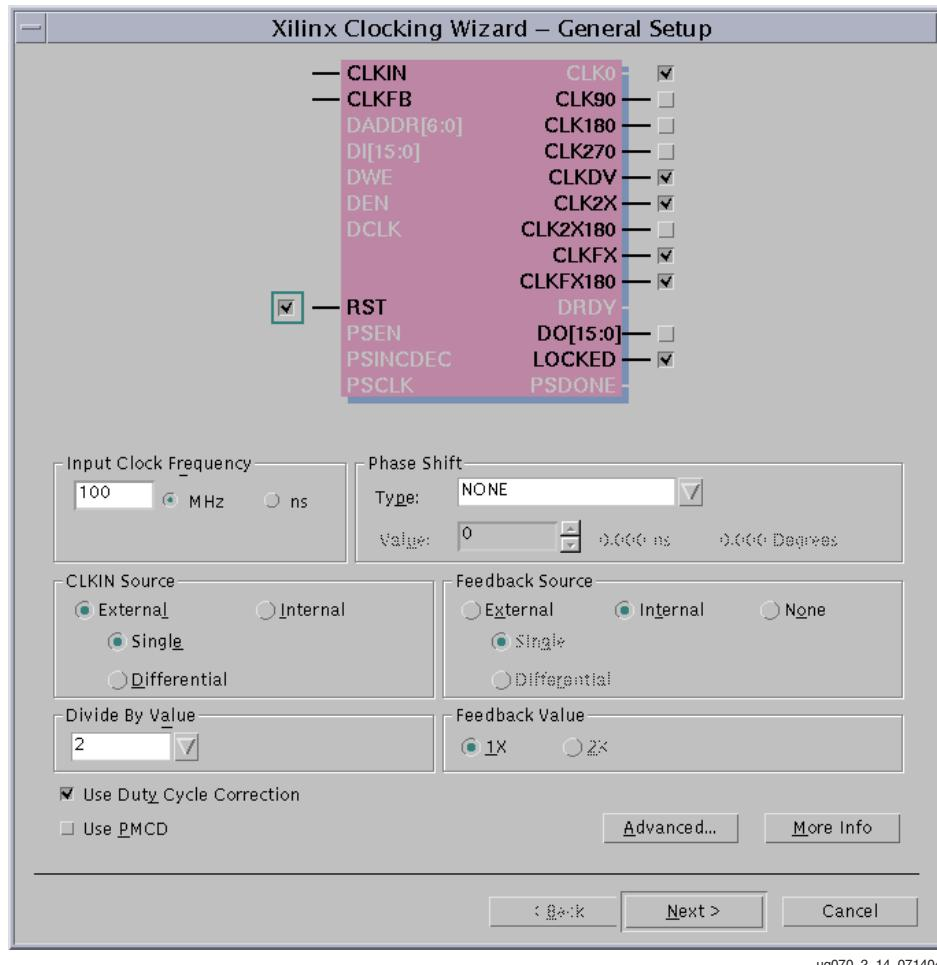
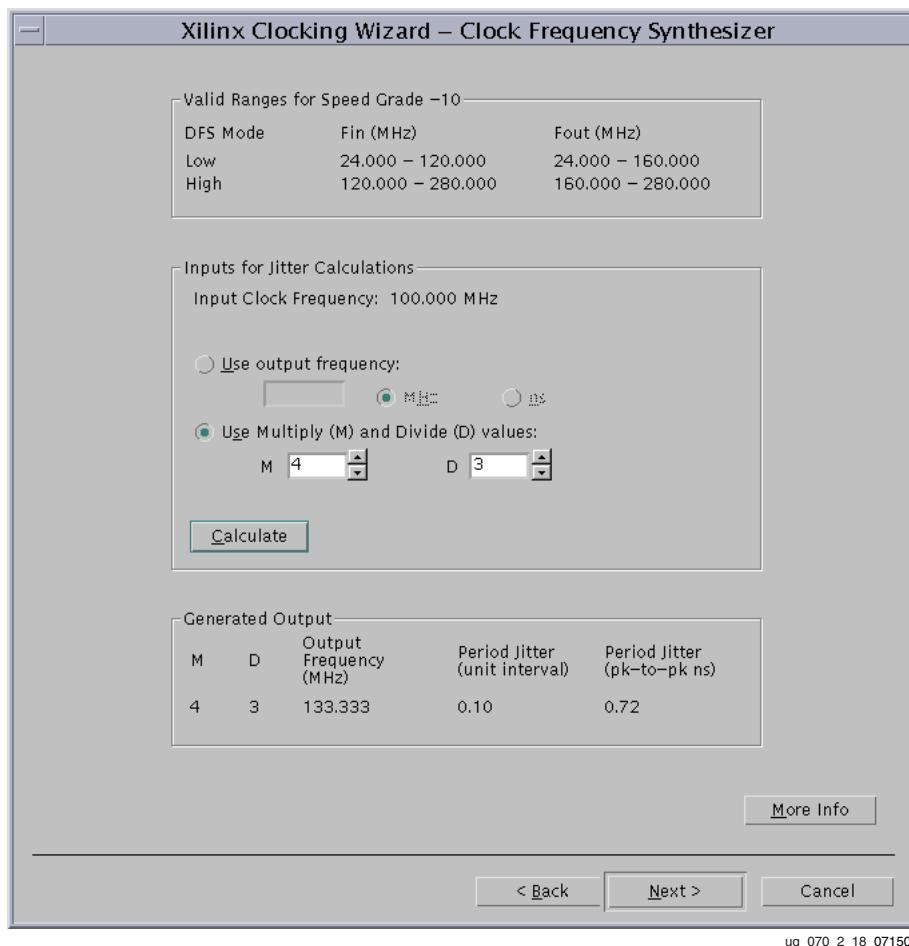

Figure 2-15: Xilinx Clocking Wizard — General Setup
Figure 2-19: Xilinx Clocking Wizard — Frequency Synthesizer
Figure 2-15 to Figure 2-19 show the settings available in the Clocking Wizard.
- ◆ Figure 2-15 provides the general settings for the DCM.
- ◆ When **CLKFX** or **CLKFX180** is selected, the Clock Frequency Synthesizer window shown in Figure 2-19 appears. This window provides the CLKFX jitter calculation. To access further information on available settings, choose the **More Info** button in each window.